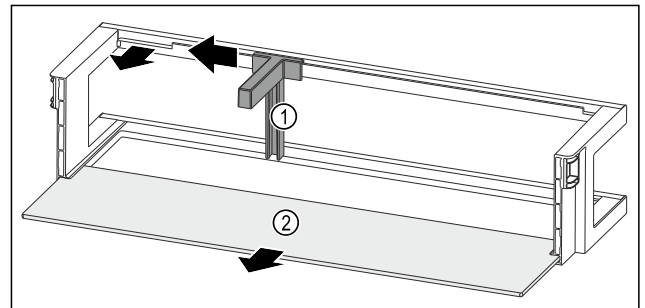

Fig. 111 Door racks with bottle holder and shelf
- Push the bottle holder Fig. 111 (1) to the side up to the recess.
- Remove the bottle holder Fig. 111 (1).
- Remove the shelf Fig. 111 (2).